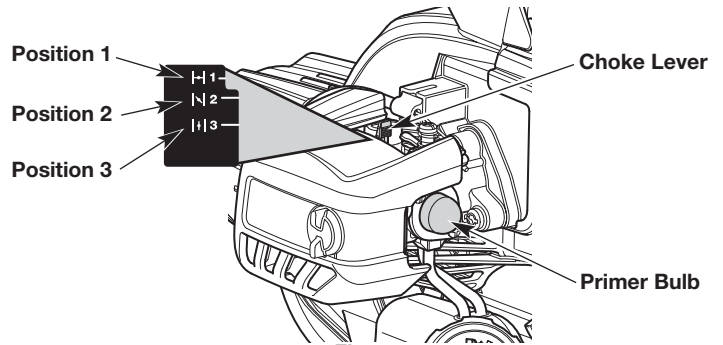

Fig. 7
3. Slowly press and release the primer bulb **10 times** (Fig. 7). If fuel cannot be seen in the primer bulb, press and release the primer bulb until fuel is visible.
4. Move the choke lever to **Position 1** (Fig. 7).
7. Continue to squeeze the throttle control. Move the choke lever to **Position 2** (Fig. 7).
10. Continue to squeeze the throttle control. Move the choke lever to **Position 3** (Fig. 7) and continue warming the engine for an additional 60 seconds. The unit may be used during this time.
IF... the engine hesitates, return the choke lever to **Position 2** (Fig. 7) and continue the warm-up.